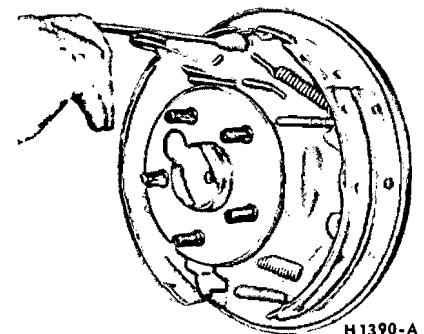

FIG. 7 Retracting Spring Removal
- With the wheel and drum removed, install a clamp over the ends of the brake cylinder as shown in Fig. 7.
- Remove the shoe to anchor springs, with the tool shown in Fig. 7 and unhook the cable eye from the anchor pin.